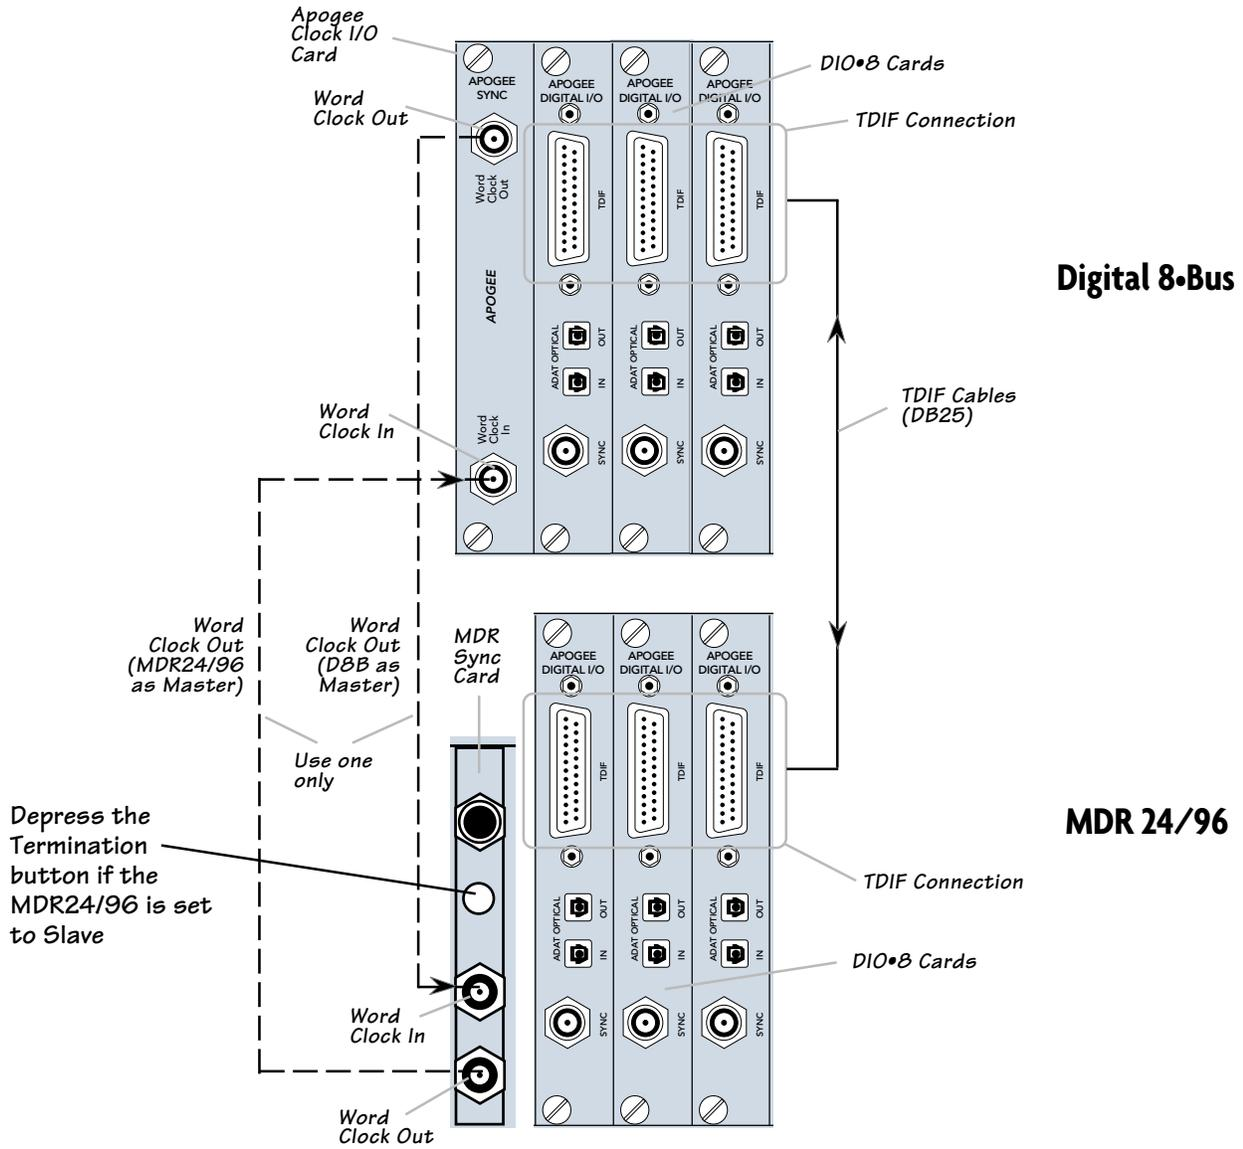

Figure 1
2. When TDIF is used, the D8B must have a Clock I/O card installed. To make the D8B the clock master, connect its Word Clock Out (not DIO•8 Sync out) to the MDR24/96 Word Clock In. To make the MDR24/96 the clock master, connect its Word Clock Out to the D8B Word Clock In. See *Figure 1*.
Note: Determining which unit in *Figure 1* provides the master clock depends on your application. For information on advanced applications, see the *Applications Manual*.